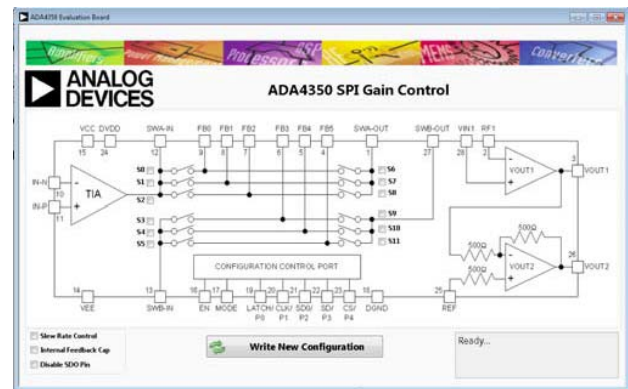

Figure 6. Labview Control Panel
3. Open the LabVIEW control panel (see Figure 6). The control panel allows the user to open and close individual switches in the switch matrix of the ADA4350. For example, to select the FB0 feedback path, click the S0 and S6 switches, then click the **Write New Configuration** button.